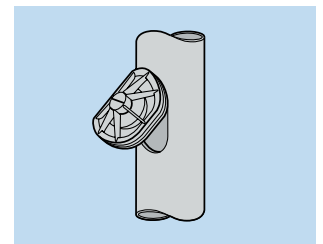

Fig.14
- Slacken door to its fullest extent. Push the inner part of the door into the hole at a slight angle turning at the same time. When it is fully entered, turn it parallel to the axis of the pipe ensuring that the inner part locates into the hole. (Fig.14).